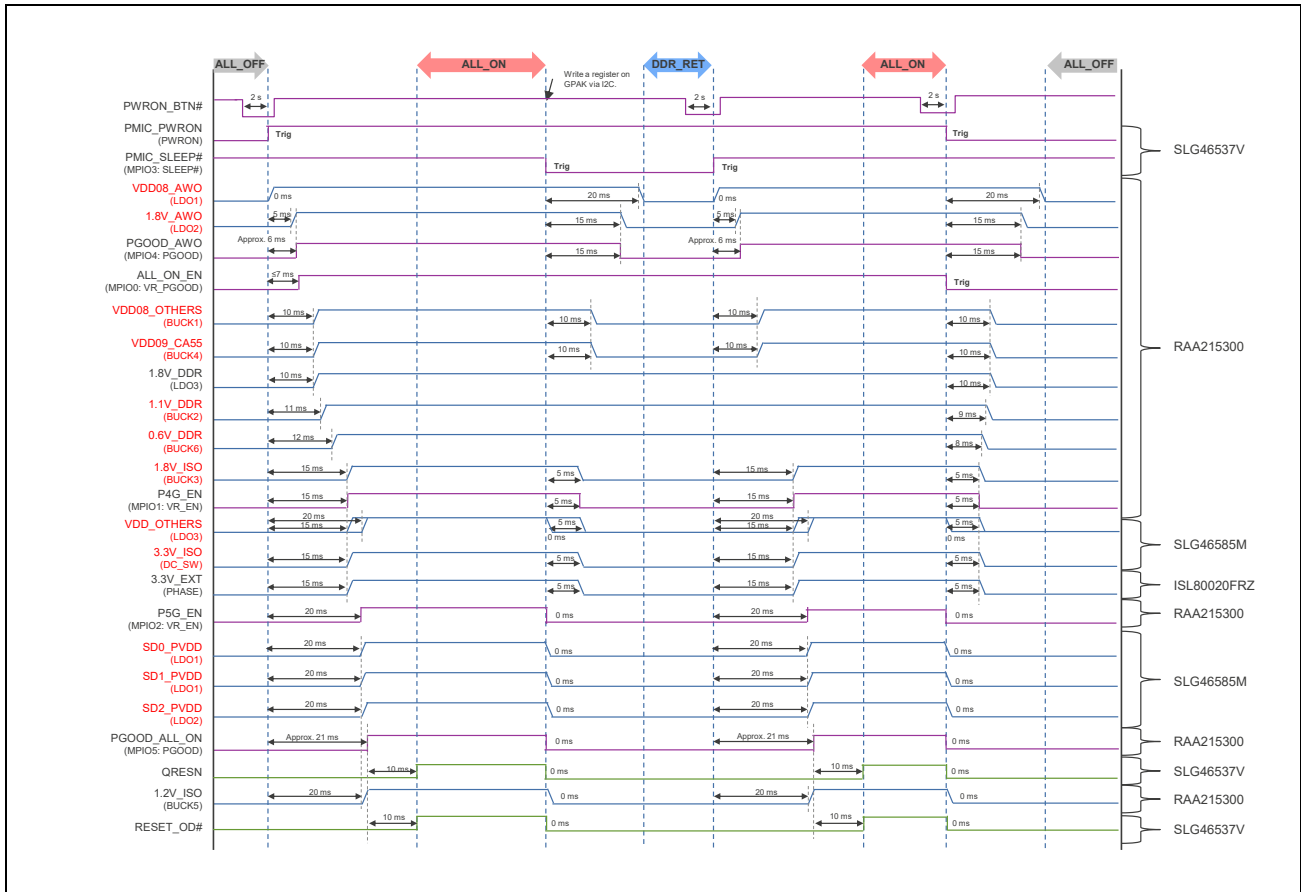
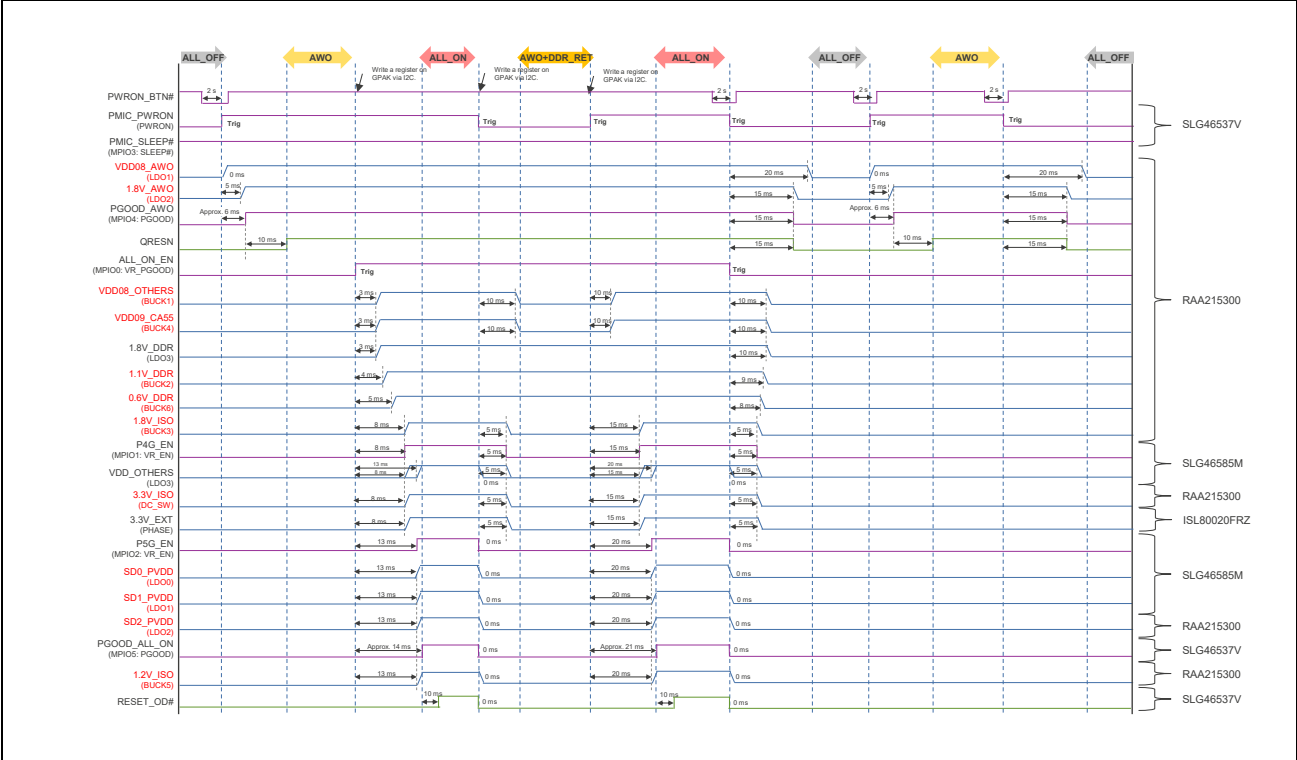

Figure 3.2 Power Sequence of G3E SMARC EVK during CA55 Cold Boot
Figure 3.3 Power Sequence of G3E SMARC EVK during CM33 Cold Boot
**Figure 3.2** and **Figure 3.3** show the power sequence of all the G3E SMARC EVK power supplies during CA55 and CM33 cold boot.